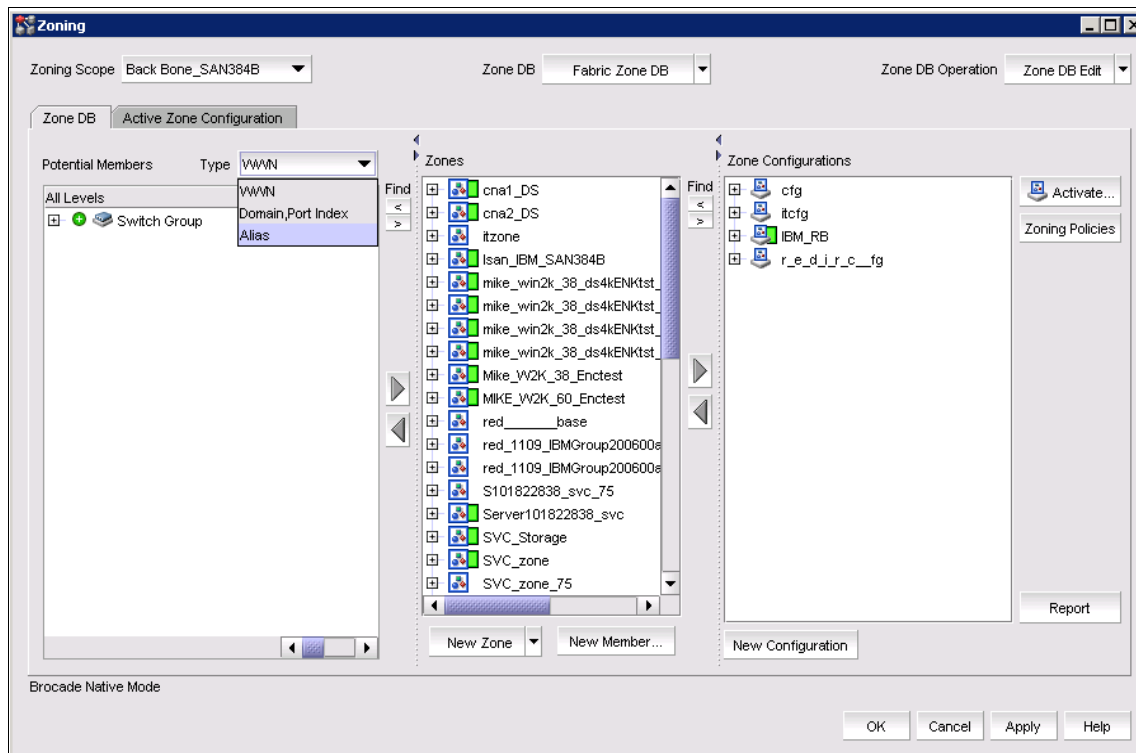

Figure 12-8 Choose display format
2. Select Alias in the **Type** pull-down menu, as shown in Figure 12-8.